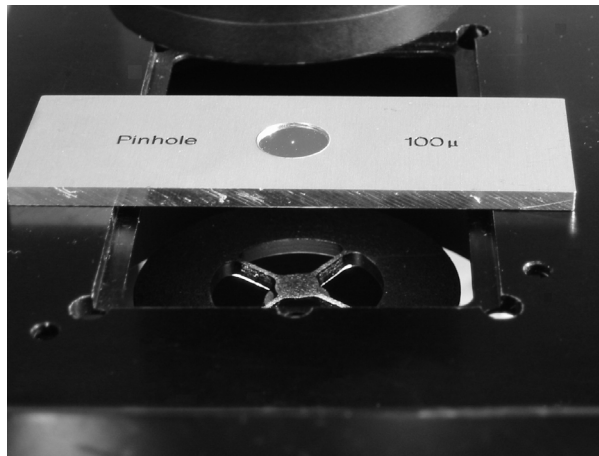

Figure 14: Pinhole on x-y Stage
- Put the pinhole on the stage. Ensure that the light coming from below passes through the pinhole. (See figure 14.)